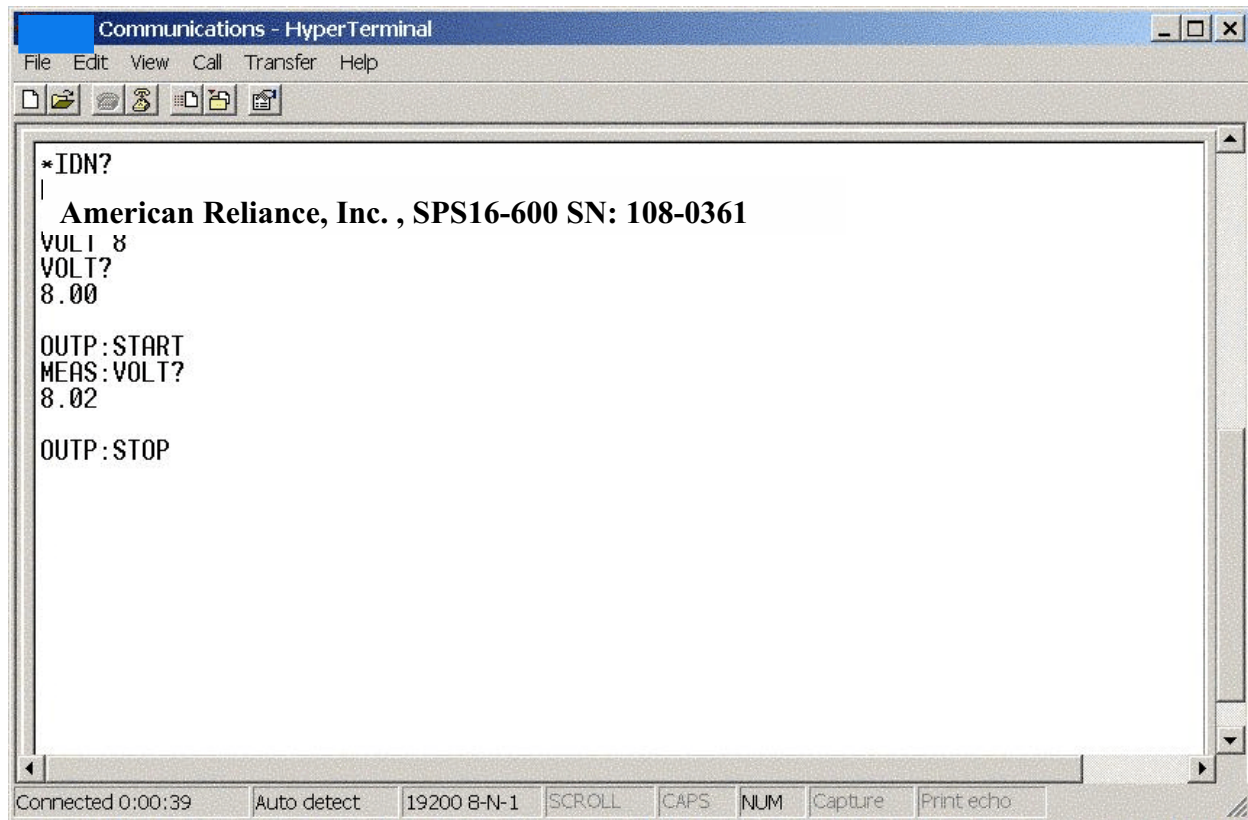

Figure 4.1 RS-232 Communications using Microsoft Windows (tm) HyperTerminal
7. As illustrated in figure 4.1, the returned data will display the following: